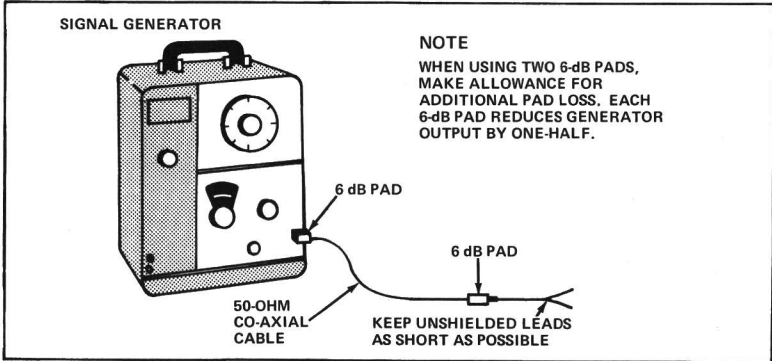

Figure 10 - Signal Generator Setup
4. Disconnect the lead of C370 from E2 (see Figure 9). The recommended signal generator setup is shown in Figure 10.
3. If Test Fixture Model 4EX17A10 is used, connect the signal generator to the Test Fixture antenna connector. If the Test Fixture is not used, connect the signal generator high to the junction of L317-C368 and the printed board, and the ground jacks. The recommended signal generator set-up is shown in Figure 10.